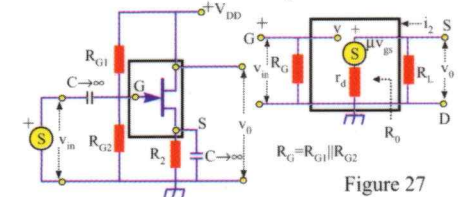

Figure 27
A common-drain (CD) FET amplifier (with the biasing circuitry) and its small-signal equivalent circuit are shown in Fig. 27.